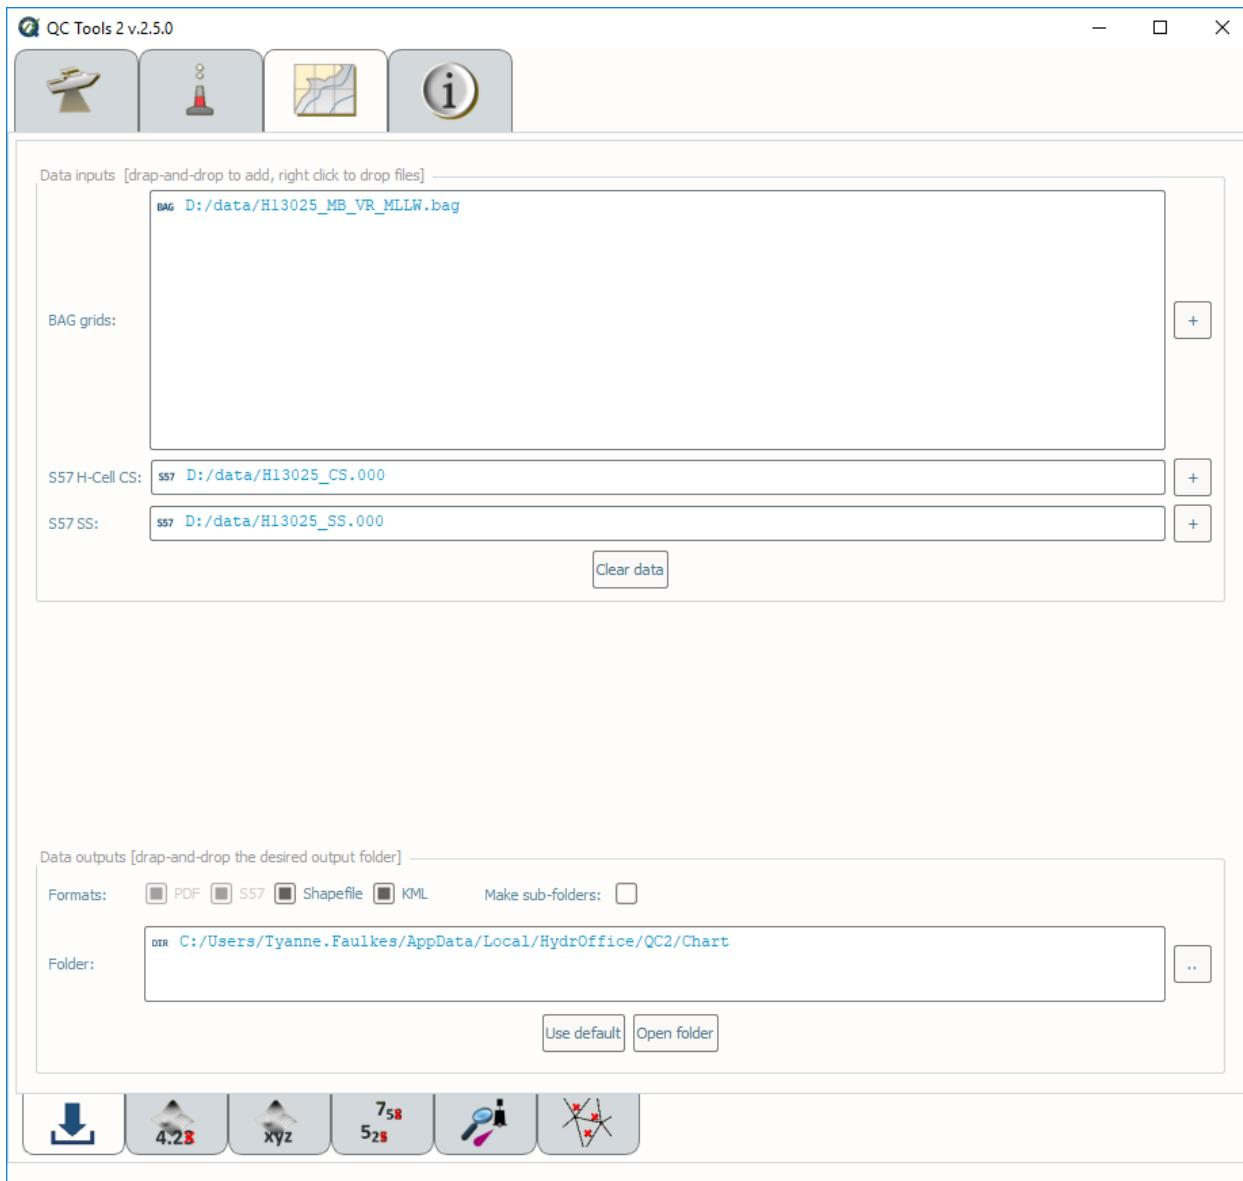

Fig. 2.59: Chart review tab.
- With the addition of a grid, feature file, and survey sounding selections, the **Grid truncate**, **Grid xyz**, **S57 truncate**, **Triangle Rule**, and/or **Scan Features** tabs on the bottom of the interface will become available (Fig. 2.59).